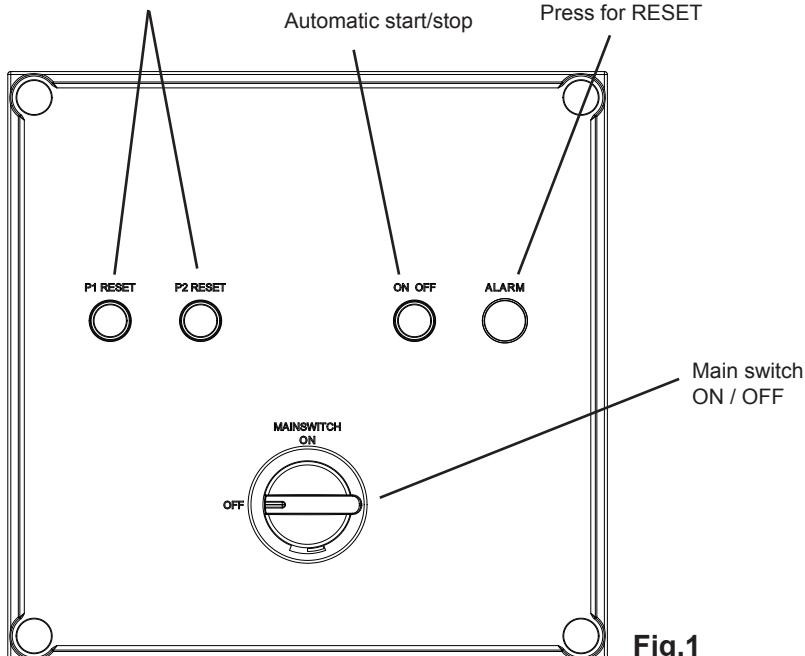

Fig. 1
A microprocessor controls and checks the system using 2 pressure switches, 1 paddle flow switch and 1 pressure monitor, see Fig. 1.
See Fig. 1. Alarm, flashing = wait. Alarm, constant light = STOP. Controls are reset after ALARM STOP by pressing ON/OFF once.
4. The thermal relay trips if the motor is overloaded. The thermal relay is RESET by pressing the button marker R. The motor protection switch will now permit a restart. See Fig. 1.
3. The thermal relay trips if the motor is overloaded. The thermal relay is RESET by pressing the button marker R. The motor protection switch will now permit a restart. See Fig. 1.